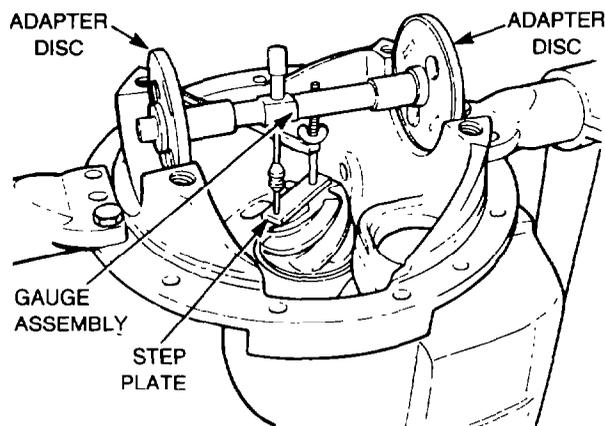

Figure 221 — Pinion Setting Tool
- r. Before installing the crownwheel and differential assembly, install the pinion setting gauge J4550 or equivalent and side plate into the differential carrier side bearing pedestals, using the correct adapter discs (see Fig. 221).